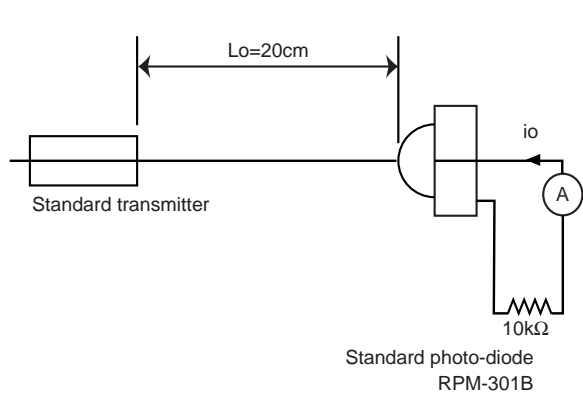
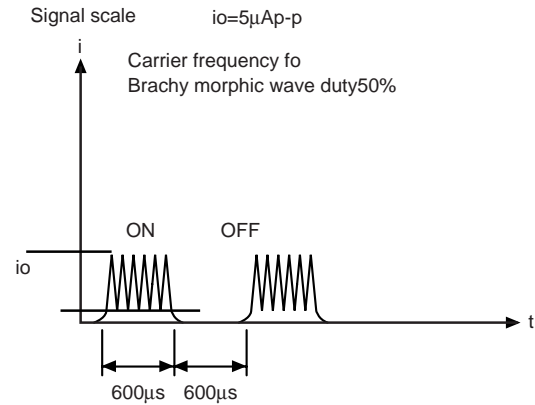

Fig.2 Measurement of standard transmitter proofreading
Fig.3 Standard photo diode current
When standard transmitter output the signal at Fig.1 standard photodiode output become $i_o=5\mu\text{A}_{p-p}$ (Fig.3) under the measurement condition Fig.2.
(1) All characteristics of the receiver in this specification are specified by supplying burst wave form (Fig.1) with ROHM standard transmitter (Fig.2).